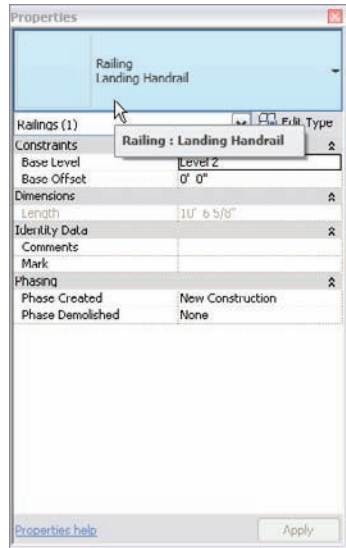

FIGURE 10.51 Setting the Landing Handrail type
2. In the Type Selector, change the type to Landing Handrail (if it is not already selected), as shown in Figure 10.51.